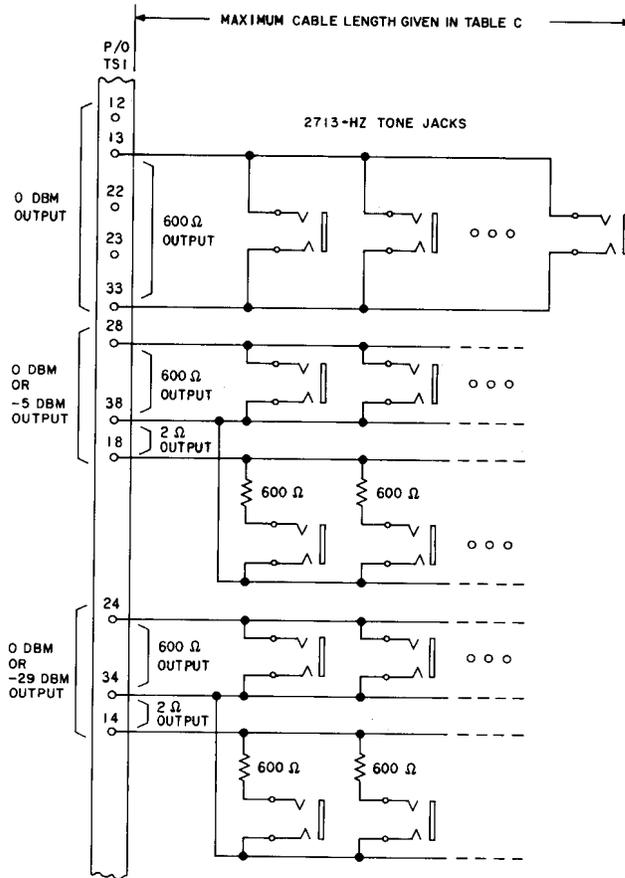

Fig. 3—Example of Multiple Jack Connections to 406A Tone Generator Outputs
5.09 The output levels at the 2713-Hz tone jacks will vary with distance of the jacks from the 406A tone generator. This is due to the loss of the cable connecting the jacks to the 406A tone generator. Figure 3 shows an example of several 2713-Hz tone jacks being connected to each output. This figure does not necessarily represent a typical